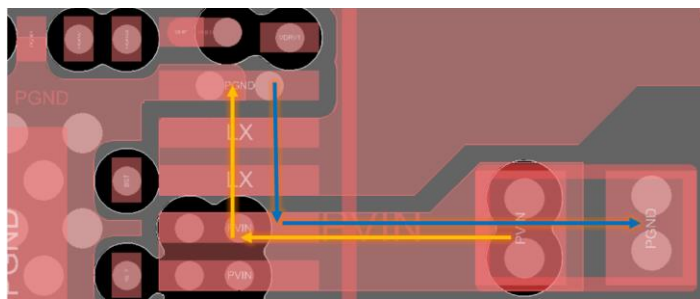

Figure 5: Same layout as Figure 4, showing ground plane (white shadow) and high frequency current loop from Figure 1
This loop area is minimized in a PCB layout when the go and return conductors are one on top of the other in adjacent layers. This means that the “go” current branches on the top layer have a corresponding unbroken return current path directly underneath in the ground plane on layer 2. This is best achieved when the closest PVIN bypass capacitor, usually the smallest, is close to and on the same layer as the AmP device, and the next copper layer is a ground plane. (See Figure 4 and Figure 5) Other larger bypass capacitors can be a little further away, such as on the opposite side of board, connected with vias. All PVIN bypass capacitors should use wide traces to connect the PVIN terminals from them and to the PVIN pins of the AmP device. If a power plane is used for convenience, the PVIN terminal should have vias close by.
Figure 5 shows the current loop path. The ground plane is displayed as a white shadow. The “go” current is shown with the yellow arrows, and “return” current is shown with the blue arrows. Note that the high frequency return currents flow in a manner that minimizes the loop area that is physically possible. In this example, the ground plane underneath the go current is unbroken as shown by the blue arrows. If the ground plane is in the next layer, this makes for the smallest possible loop area. Any breaks in the ground plane where the blue arrows lie will increase the loop area and should be avoided.
- 5) Does the return path from the Source/PGND pin to the bypass capacitor grounded terminal have an uninterrupted path in the ground plane, under the “go currents” as per Figure 5?